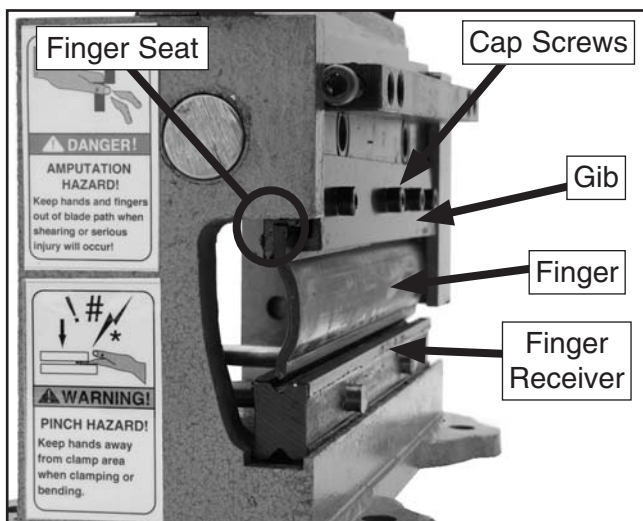

Figure 8. Removing fingers.
2. Using the work lever, position the 8" finger to the uppermost position (**Figure 8**).
3. Using a 4mm hex wrench, loosen all of the cap screws that hold the gib (**Figure 8**), then slide the 8" finger out.